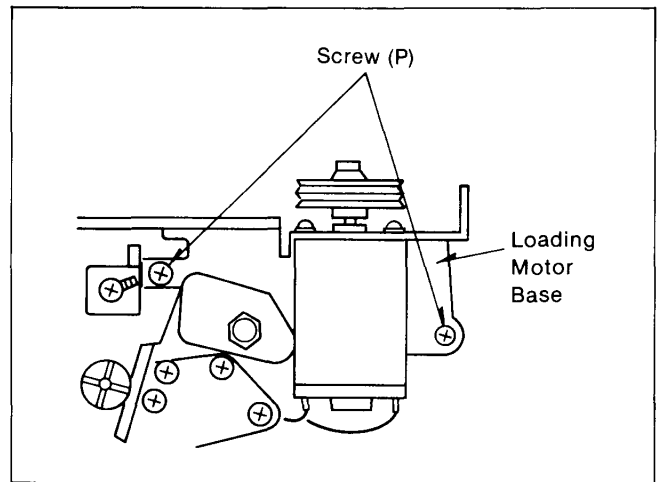

Figure M21
1. Unscrew 2 screws (P) and remove the Loading Motor Base. (Figure M21)
4. Install a Pinch Solenoid and tighten 2 screws (P).
5. Install the Loading Motor Base and tighten 2 screws (P).(Figure M21)